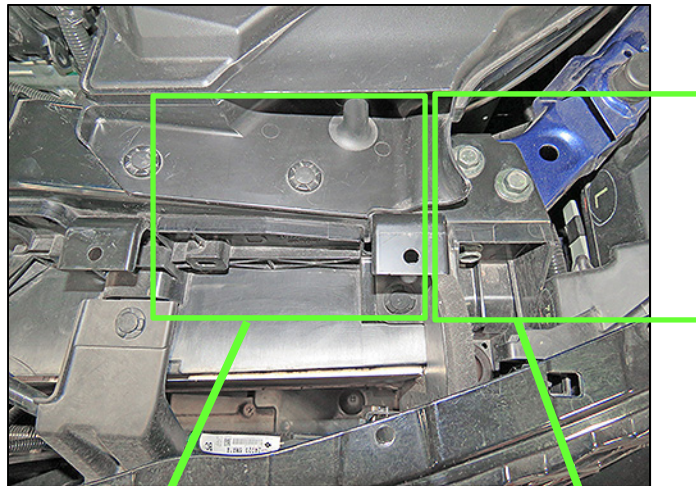

Figure 4
8. Confirm if the foam blocks have already been applied to the positions indicated in Figure 4 below: